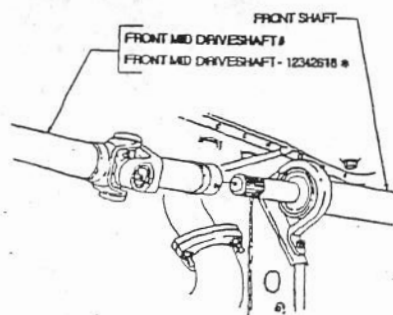

FIGURE 1
- J. REMOVE FRONT MID DRIVESHAFT FROM FRONT SHAFT AND VEHICLE AS SHOWN IN FIGURE 1.
- C. INSTALL 12342618 FRONT MID DRIVESHAFT ON FRONT SHAFT AS SHOWN IN FIGURE 1.